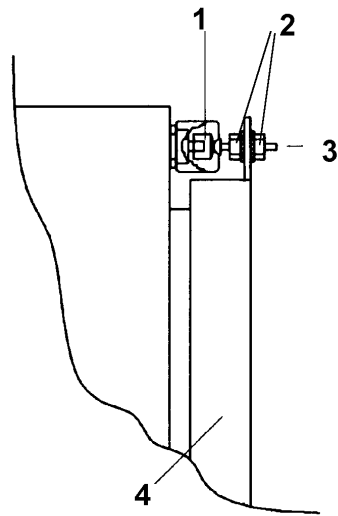

Figure 3 Door Safety Interlocks.
<p>(4) Test without blast media (for transport damages).</p>	<ul style="list-style-type: none"> - Close the doors. - Press the green switch on the black box. The light must switch on and the motor start. - Check if motor rotates in direction of the arrow. If not, reverse polarity of the electrical connection by a qualified electrician. - When the light and the motor are switched on (green button), the cleaning pulse for the dust collector cartridge can be heard in regular intervals (of 40s). - Pick up nozzle (gloves) and depress the foot pedal. The blast process must start (air comes out the nozzle). - While the foot pedal is depressed, a second person opens first the right and then the left door. At the same time the blast process should automatically be interrupted (see door interlock adjustment in figure 3). - The blast process has to be interrupted by pushing the emergency stop button. - If no troubles occur, the cabinet can be tested with blast media. Otherwise go to section 6 for trouble-shooting.